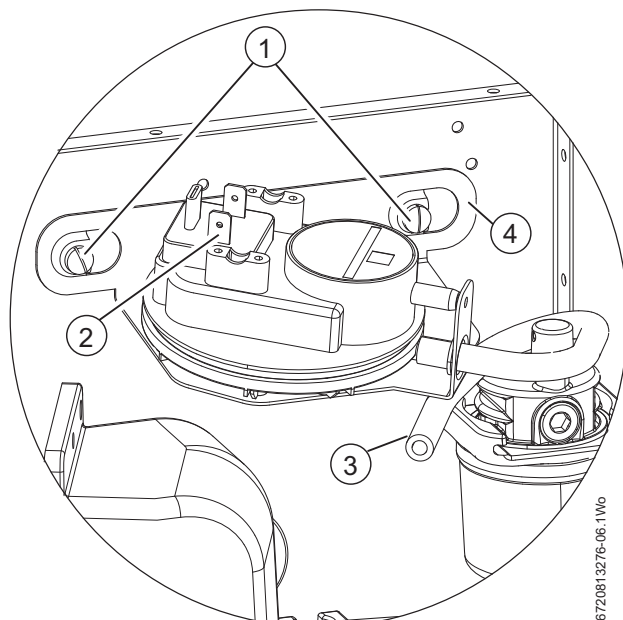

Fig. 84
- ▶ Re-connect the tube [3] to the switch, ensuring routing is looped as in figure 84.